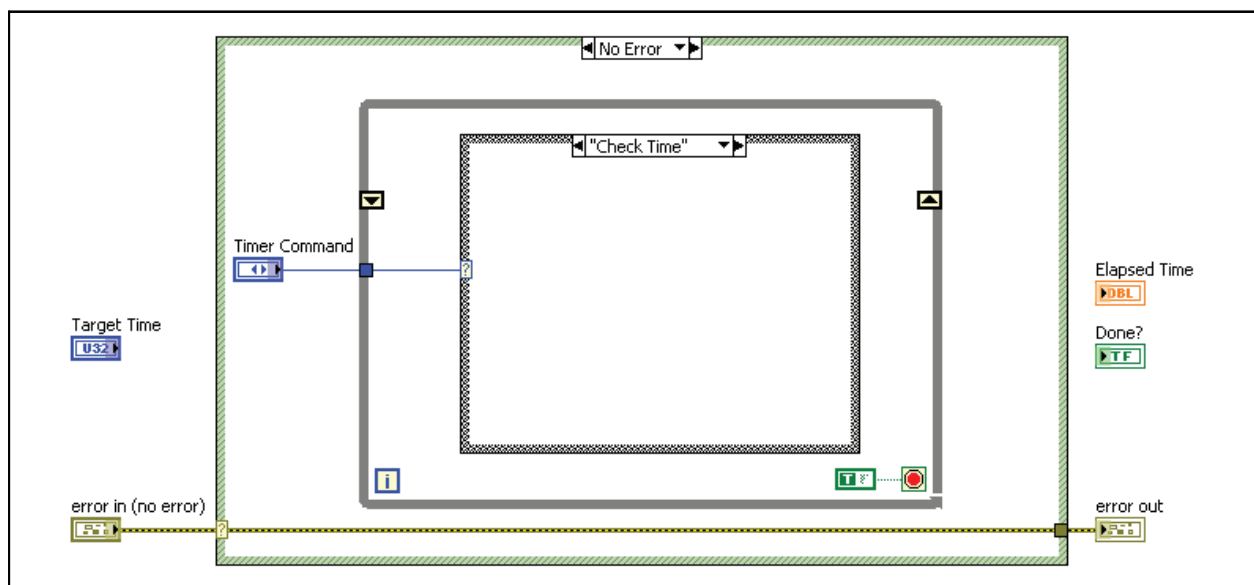

Figure 6-8. Timing Module Block Diagram
3. Modify the No Error case to make the tlc_Timing Module VI a functional global variable that keeps track of elapsed time, as shown in Figure 6-8.